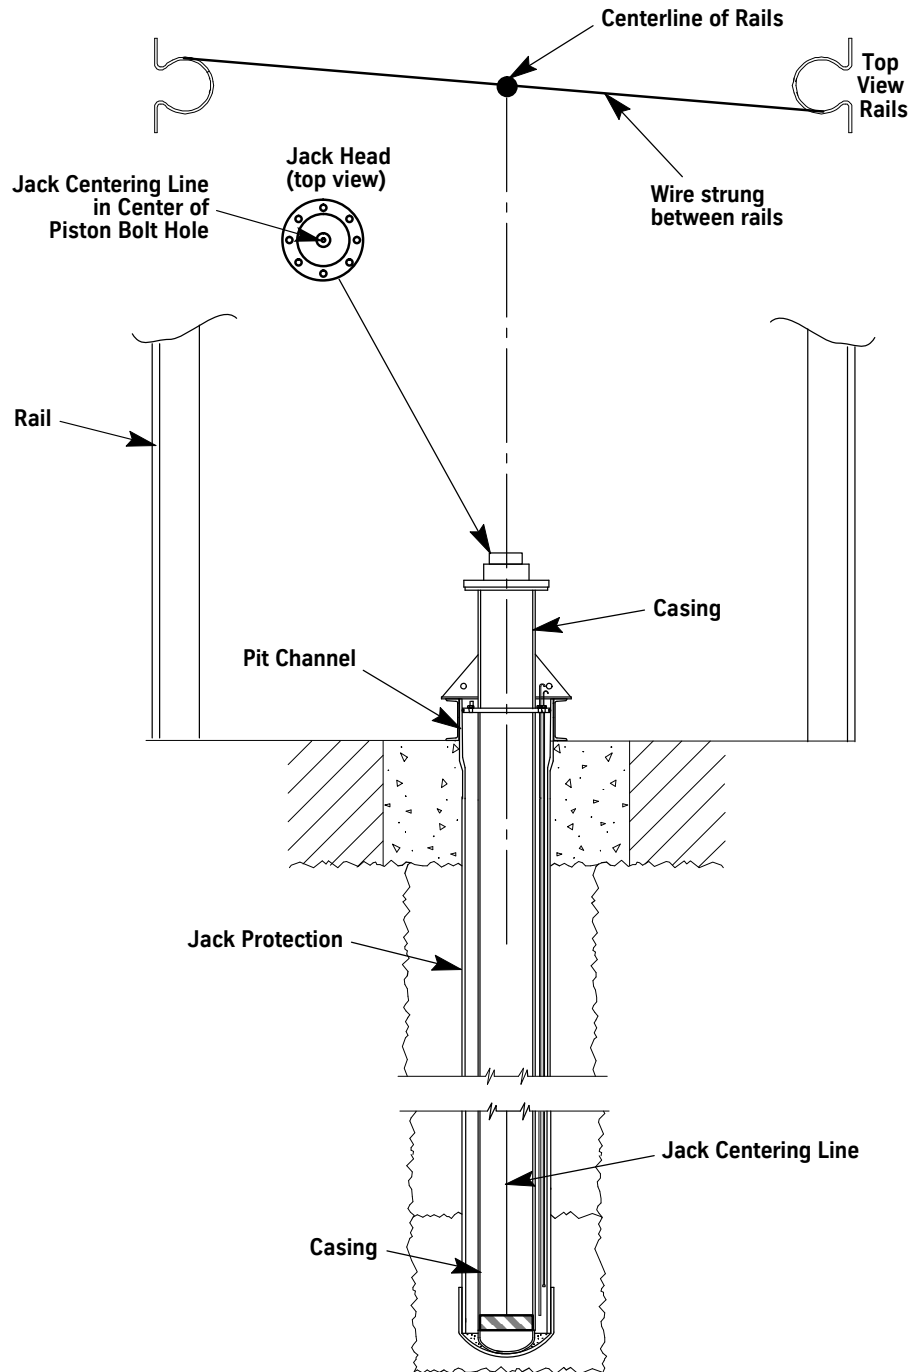

Figure 26 - Jack Alignment
3. Pull the centering line cable out $\frac{1}{8}$ ". See Figure 26.